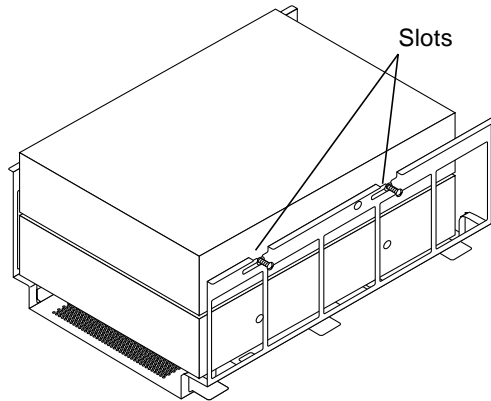

FIGURE 2-3 Adding a Second Half-Height Drive
The screws should slide into the bracket slots (see FIGURE 2-3). The bracket and drives are shown outside the enclosure for clarity.
- If the drive is in the upper position in the tray, the screws are at the sides (see FIGURE 2-3).